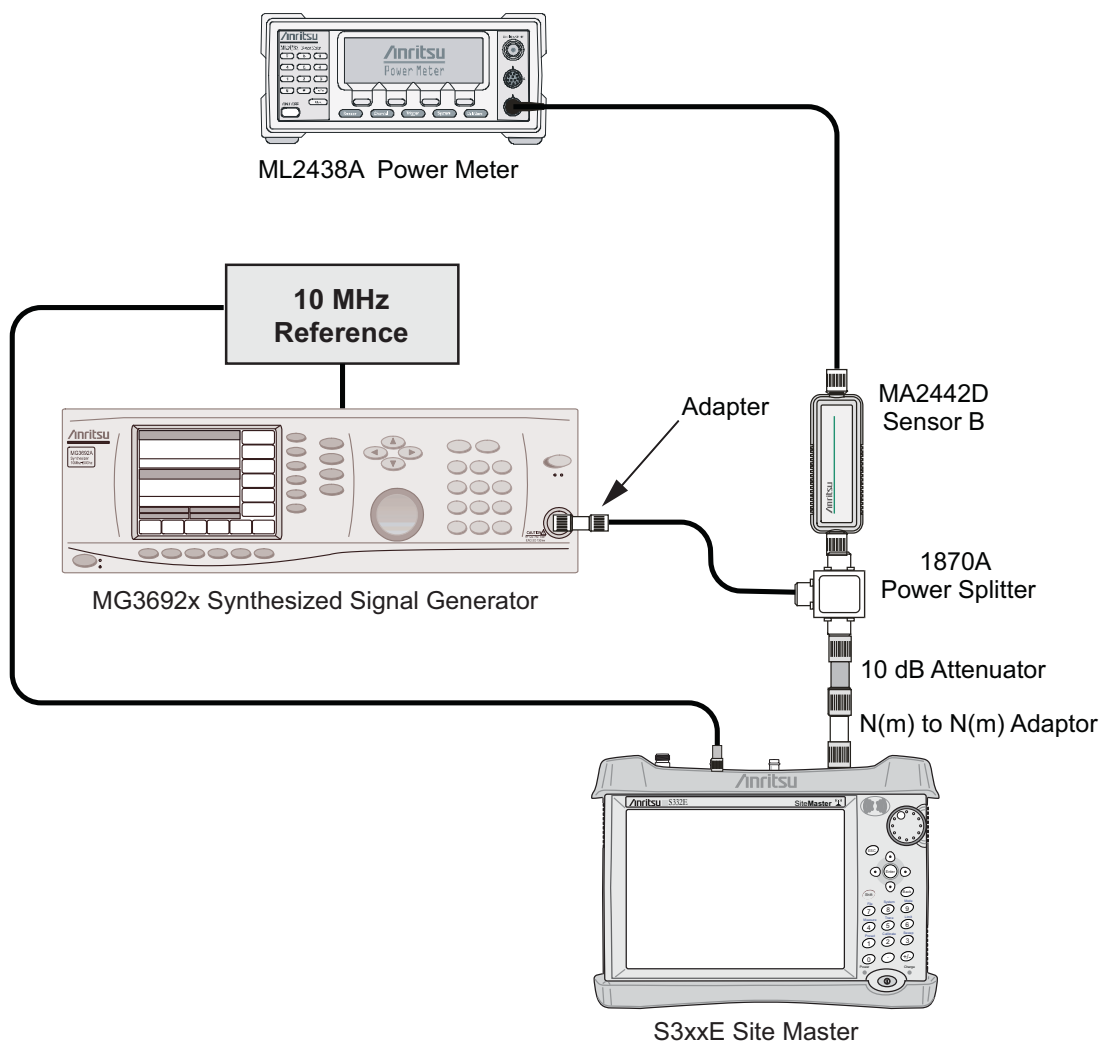

Figure 2-2. Absolute Amplitude Accuracy Verification Test Setup
1. Remove Sensor A, add the adapter and connect it to the Spectrum Analyzer RF In connector of the S332E or S362E Site Master as shown in Figure 2-2.